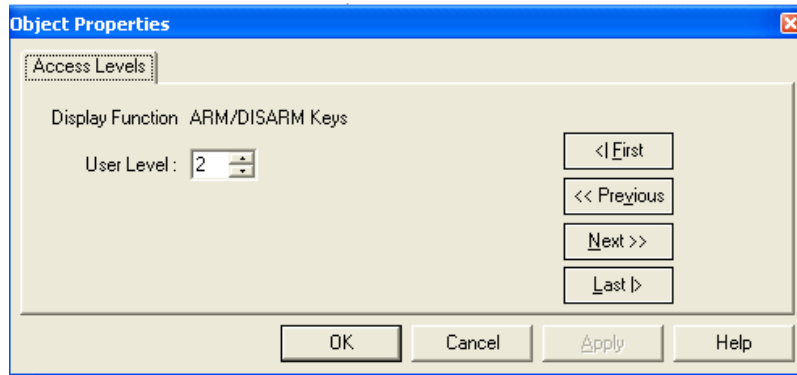

Figure 4-4. Access Level Object Properties Dialog
3. Double click on the display function whose access level you want to change. A dialog similar to the one shown in Figure 4-4. appears.